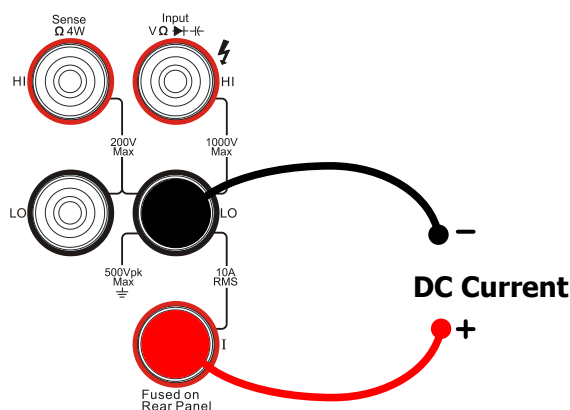

Figure 2-11 Sketch map for connecting
1. Connecting the red lead (Test leads) to Terminal Input-HI (tested circuit) and black lead to Terminal Input-LO as shown in Figure 2-11.